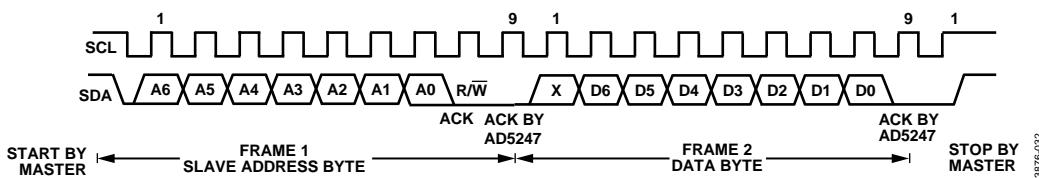
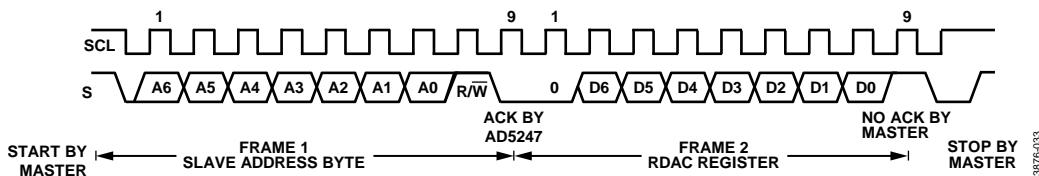

Figure 33. Writing to the RDAC Register
Figure 34. Reading from the RDAC Register
1. The master initiates a data transfer by establishing a start condition, which is when a high-to-low transition on the SDA line occurs while SCL is high (see Figure 33). The following byte is the slave address byte, consisting of the 7-bit slave address followed by an R/W bit (this bit determines whether data is read from or written to the slave device). The slave, whose address corresponds to the transmitted address, responds by pulling the SDA line low during the ninth clock pulse (this is termed the acknowledge bit). At this stage, all other devices on the bus remain idle while the selected device waits for data to be written to or read from its serial register. If the R/W bit is high, the master reads from the slave device. If the R/W bit is low, the master writes to the slave device.
2. In write mode, after acknowledgement of the slave address byte, the next byte is the data byte. Data is transmitted over the serial bus in sequences of nine clock pulses (eight data bits followed by an acknowledge bit). The transitions on the SDA line must occur during the low period of SCL and remain stable during the high period of SCL (see Figure 33).
3. In read mode, after acknowledgment of the slave address byte, data is received over the serial bus in sequences of nine clock pulses (a slight difference from write mode, where eight data bits are followed by an acknowledge bit). Similarly, the transitions on the SDA line must occur during the low period of SCL and remain stable during the high period of SCL (see Figure 34).
4. When all data bits have been read or written, a stop condition is established by the master. A stop condition is defined as a low-to-high transition on the SDA line while SCL is high. In write mode, the master pulls the SDA line high during the 10th clock pulse to establish a stop condition (see Figure 33). In read mode, the master issues a no acknowledge for the ninth clock pulse (that is, the SDA line remains high). The master then brings the SDA line low before the 10th clock pulse, which goes high to establish a stop condition (see Figure 34).